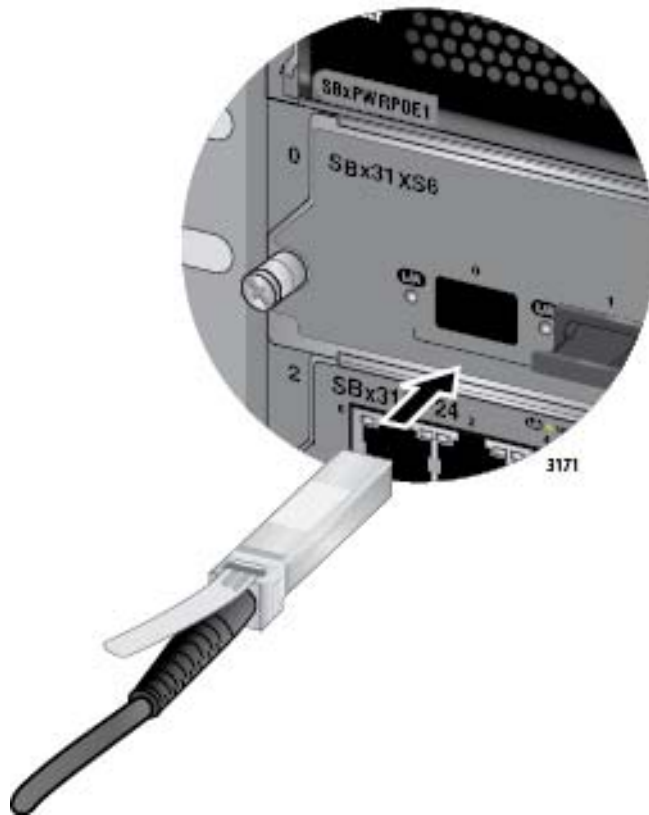

Figure 106. Installing the AT-SP10TW Cable in the AT-SBx31XS6 Line Card
3. Slide the connector into the slot until it clicks into place, as shown in Figure 106 on page 167.